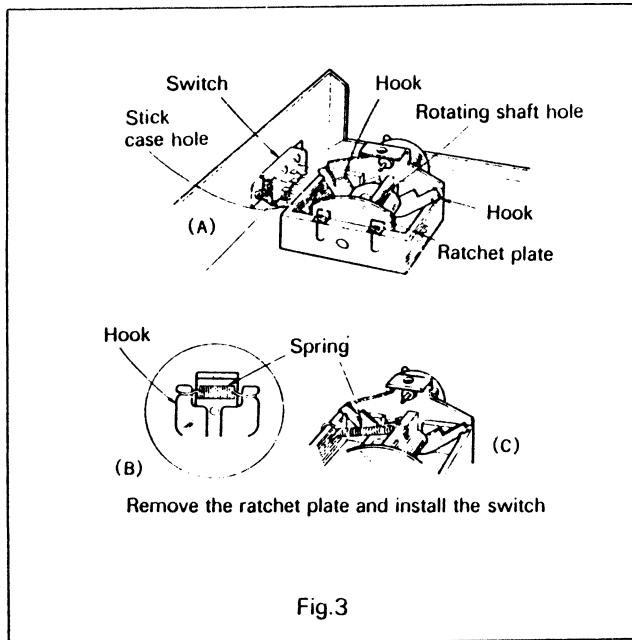

Fig.3
3. After verifying that all connections are correct by checking them against the connections given in Figure 3, turn the transmitter power switch on. Then turn the receiver switch on. At this time, each servo will stop at the neutral position.
1. Check the voltage of each battery and verify that the receiver and servos are connected in accordance with Figure 3. Then, make the transmitter antenna as short as possible (In the case of the FP-T2F, extend one section of the antenna) and extend the receiver antenna and attempt operation from a distance of 20m~30m. Operation is normal if all the controls are functioning properly. Perform this test within a maximum of 5 minutes time. Never perform this test when the transmitter antenna is not mounted to the transmitter. Otherwise the transmitter will be adversely effected.